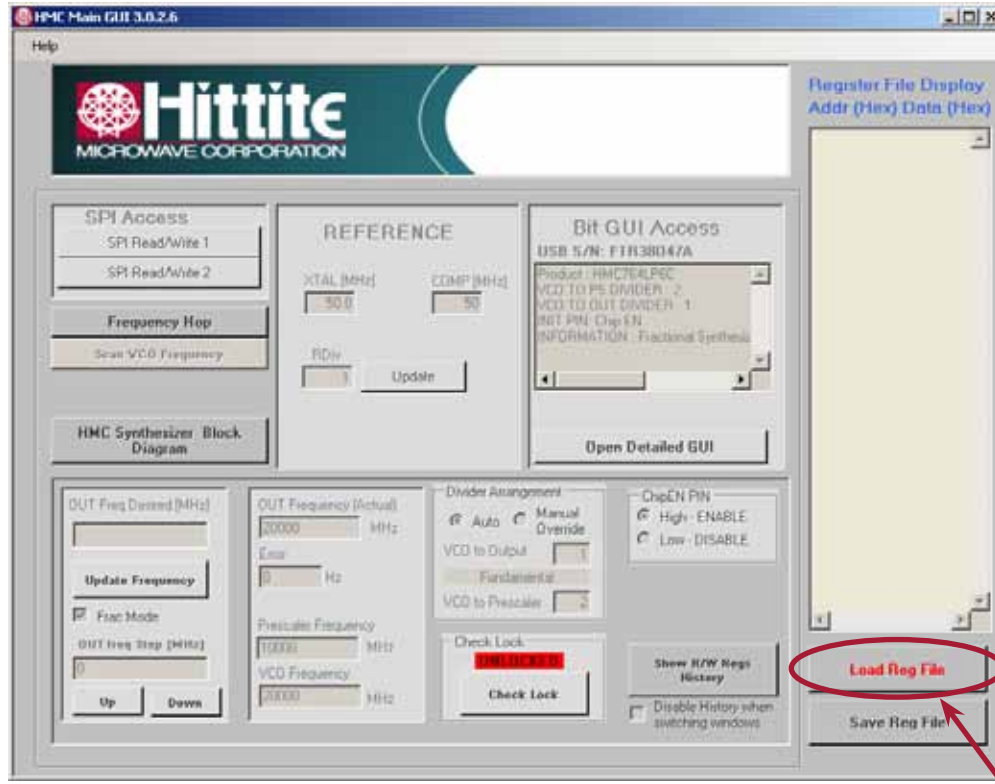

Figure 10. Main Control Window
Step 6. Click “Done” button, the main control window pops out as Figure 10 shown.